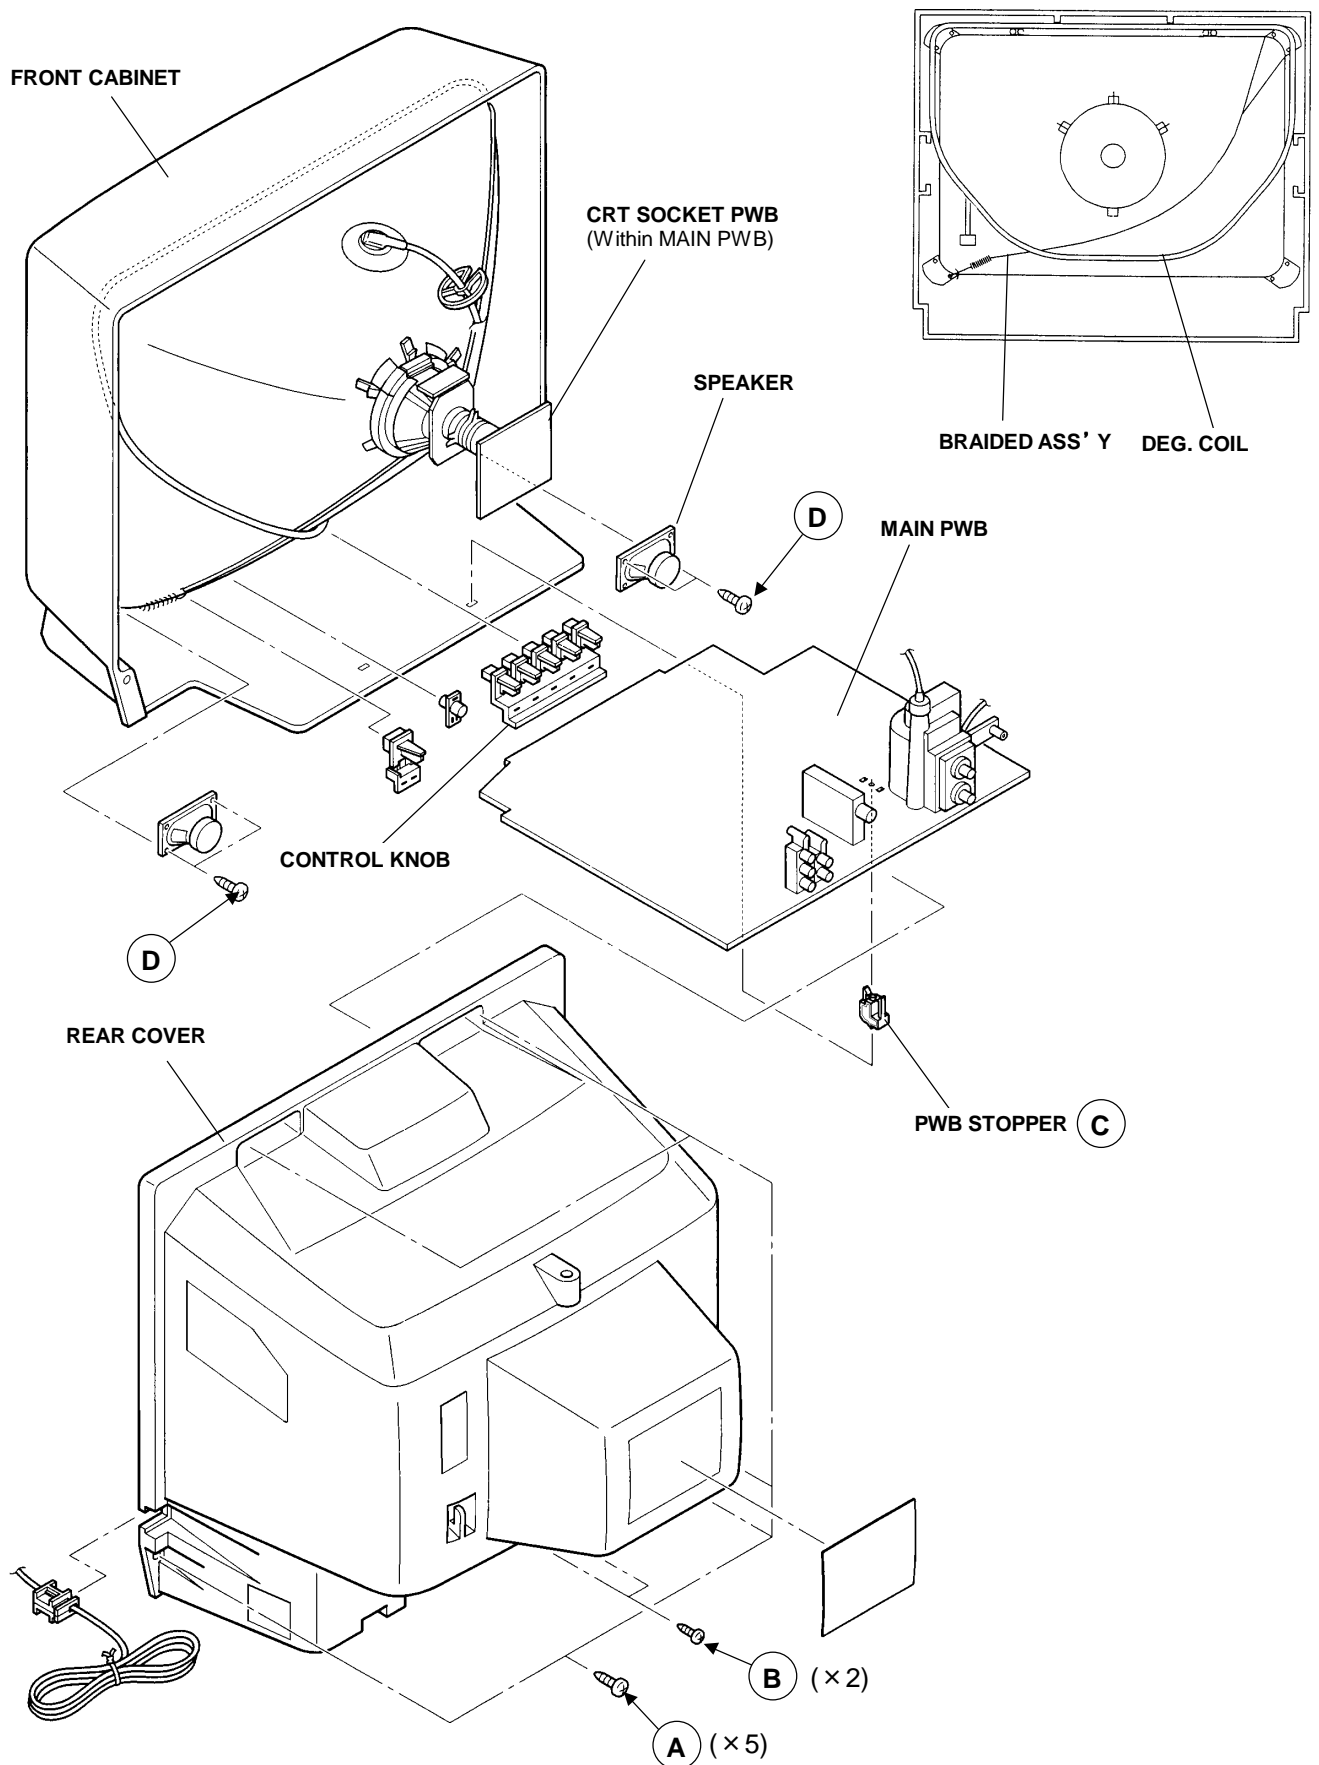

Fig.1
2. Remove the 5 screws marked (A) and 2 screws marked (B) as shown in Fig.1.
| <p>(4) System constant check and setting 1) Press SLEEP TIMER key and, while the indication of "SLEEP TIMER 0 MIN." is being displayed, press DISPLAY key and VIDEO STATUS key on the remote control unit simultaneously. 2) The SERVICE MENU screen of Fig.1 is displayed. 3) While the SERVICE MENU is displayed, again simultaneously press the DISPLAY and VIDEO STATUS keys to display the Fig.2 SYSTEM CONSTANT screen. 4) Refer to the SYSTEM CONSTANT table and check the setting items. Where these differ, select the setting item with the MENU UP/DOWN key and adjust the setting with the MENU LEFT/RIGHT keys. (The letters of the selected item are displayed in yellow.) 5) After adjusting, release the MENU LEFT/RIGHT key to store the setting value. 6) Press the EXIT key twice to return the normal screen.</p> | <div><div>SERVICE MENU</div><div>PICTURE SOUND</div><div>GAME</div><div>LOW LIGHT HIGH LIGHT</div><div>RF AFC CHK</div><div>VCO(CW)</div><div>SELECT BY ▲▼ EXIT BY</div><div>OPERATE BY ◀▶ [EXIT]</div></div> <p>Fig.1</p> <div><div>SYSTEM CONSTANT</div><div>MODEL : ***** ←</div><div>V-CHIP : YES</div><div>CAN V-CHIP : YES</div><div>*****-*****</div><div>SELECT BY ▲▼ EXIT BY</div><div>OPERATE BY ◀▶ [EXIT]</div></div> <p>Fig.2</p> <p>Indicated Model No.</p> |
| <p>(7) SERVICE MENU setting Verify what to set in the SERVICE MENU, and set whatever is necessary.(Fig.1) Refer to the SERVICE ADJUSTMENT for setting.</p> | |